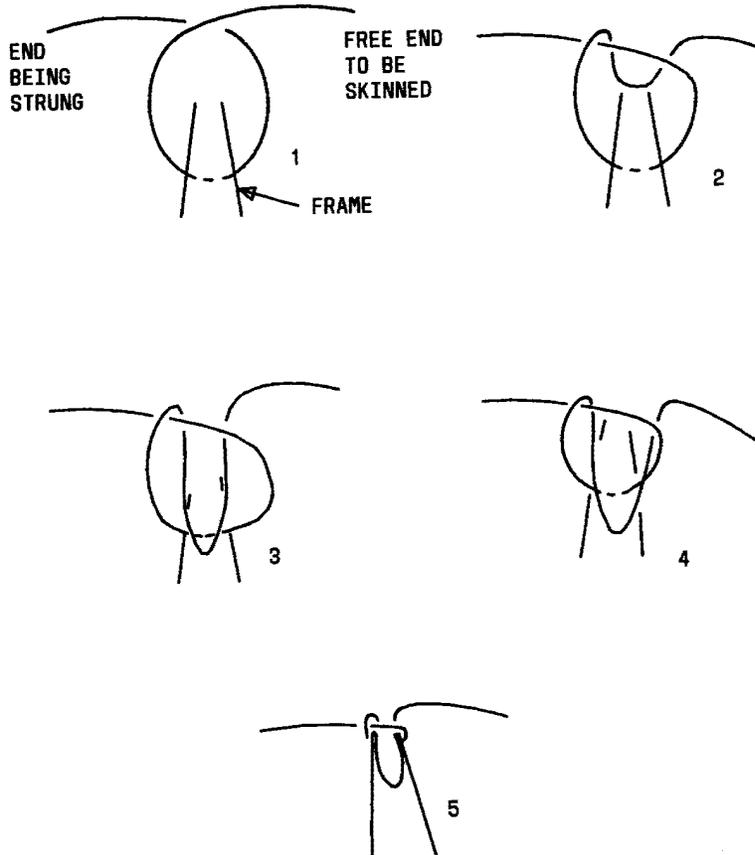

Fig. 6—Method for Making Solderless-Wrapped Connections
- (1) Use a slip knot to tie down wire in the terminal block fanning strip hole on the horizontal (equipment) side of the frame (see Fig. 6). Make sure that sufficient slack is left to make a soldered or solderless connection as applicable.